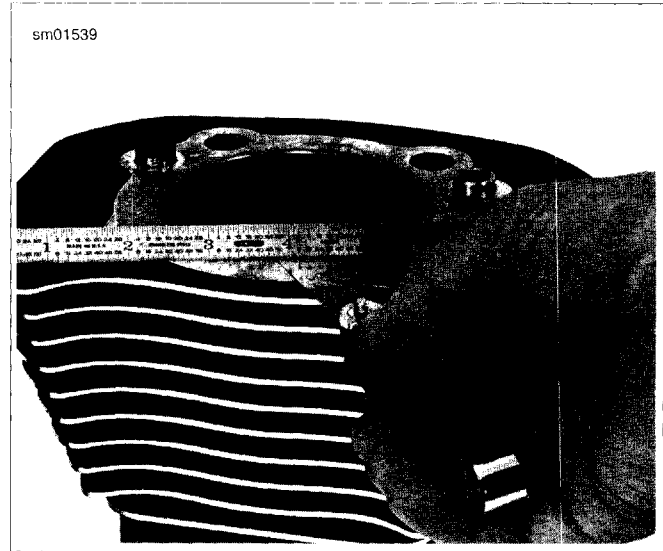

Figure 3-136. Checking Gasket Surfaces
1. See Figure 3-136. Check that cylinder top (head) gasket surface is flat within 0.006 in. (0.15 mm). Lay a straight edge across the surface, then try to insert a feeler gauge between the straightedge and the gasket surface.